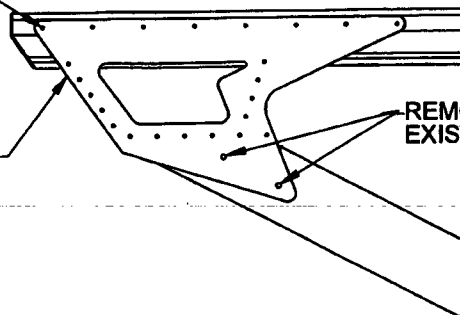

FIGURE 1
2.1.2 Remove qty (16) rivets fastening Step Leg Assembly D2582 to the D2351-041/-042 Step Assembly. See Figure 1. Drill a ϕ 0.25" hole in the bottom of the step 0.25" from the forward end. Hold the step vertically with the hole end down. Inject Sikaflex/Proseal into the hole to 'capture' any rivet stems inside the step and cover the drilled hole. Allow to cure before proceeding.
2.2.2 Remove qty (16) rivets fastening Step Leg Assembly D3065-041 and Spacer D3066-1 (2 PL) to D3078-041/-042 Step Assy or D3272-041/-042 Step Assy. Retain Spacer D3066-1 (2). See Figure 1. Drill a ϕ 0.25" hole in the bottom of the step 0.25" from the forward end. Hold the step vertically with the hole end down. Inject Sikaflex/Proseal into the hole to 'capture' any rivet stems inside the step and cover the drilled hole. Allow to cure before proceeding.